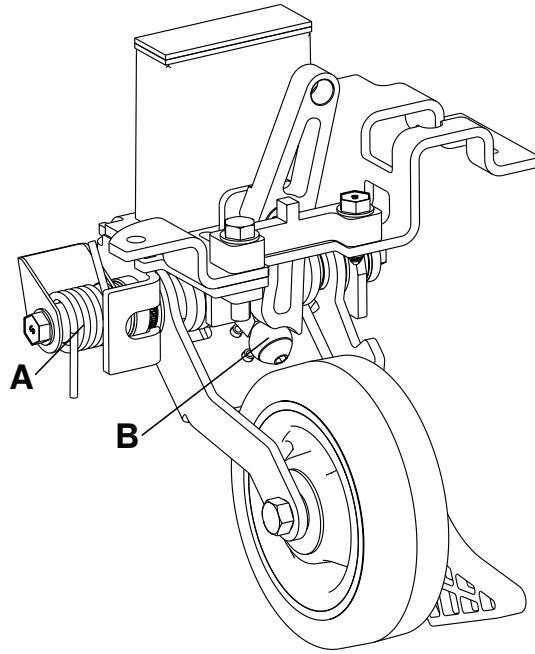

**Figure 22 – Retractable fifth wheel lubrication**
3. Apply MPG-3 grease to the spring (A) and roller (B) (Figure 22).